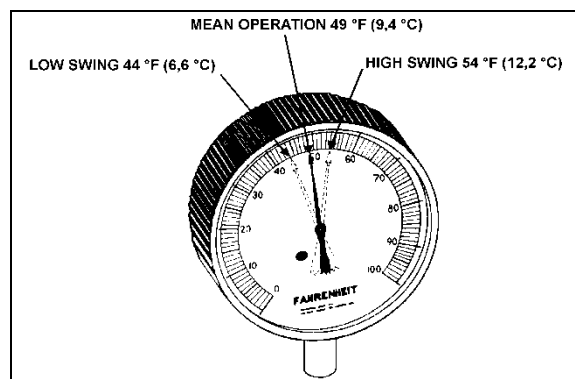

FIGURE 61: HIGH & LOW SWING TEMPERATURE AT REMOTE BULB 22047
6. Check approximately 5 readings of pressure at 2-minute intervals and convert to temperature using the vapor-pressure table. Likewise check the temperature reading at the remote bulb at the same 2-minute intervals and record the low and high swing readings of the needle (Figure 61).